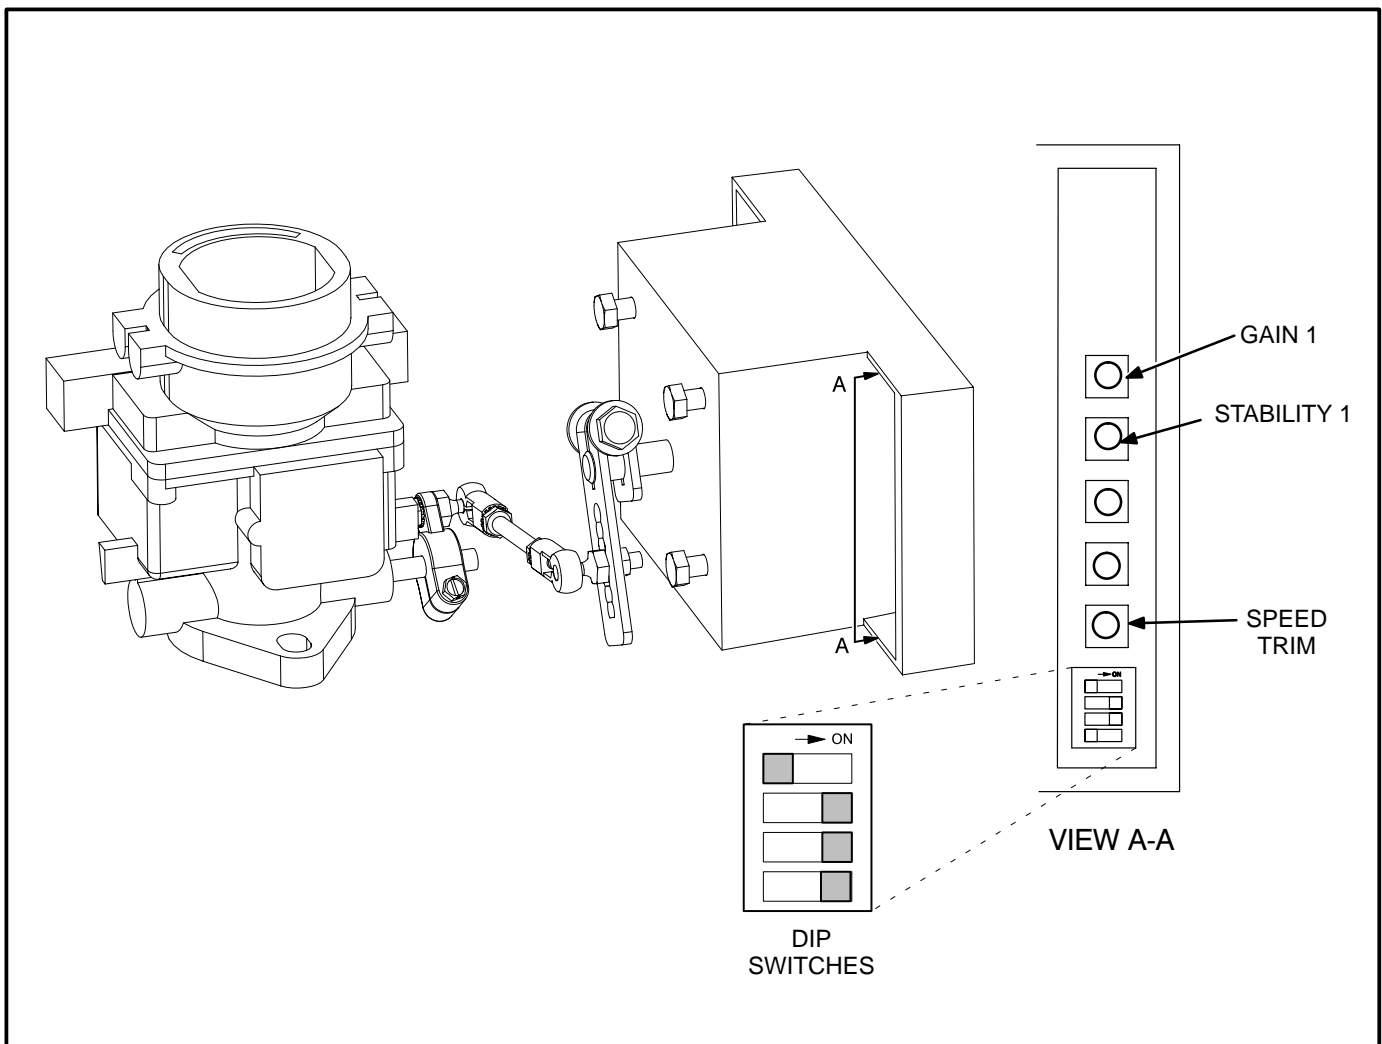

FIGURE 28. GOVERNOR CONTROLLER
1. Check the dip switch settings (Figure 28) to make sure they are set properly, as follows: